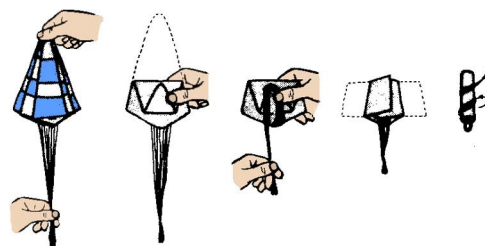

Figure 10
- **Step 24** Study the illustration in Figure 10 to see the correct way to fold the parachute. Do not wrap the lines tightly, but just enough that the parachute retains its shape. This step should **only** be done just before flight – **NEVER** pack the parachute in the rocket when you are storing it between flight sessions. In cold climates, or during winter months, you will find it helpful to dust the parachute with talcum powder. This will keep the plastic from sticking in a closed condition after deployment.